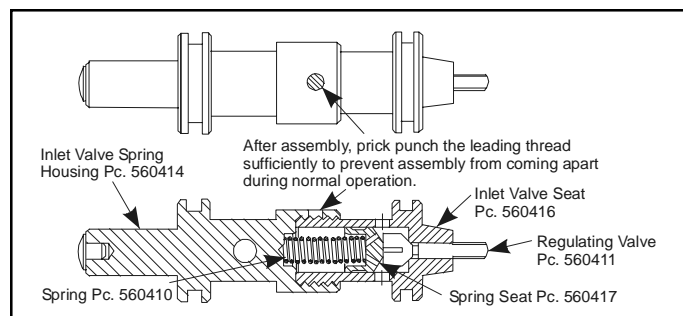

Figure 6 - Assembly View
7.2.15.4.2 (Referring to the assembly view, Figure 6). Carefully hold the inlet valve portion of the regulating valve with a suitable wrench, then use a spanner wrench (see Section 6) to remove the inlet valve spring housing portion of the